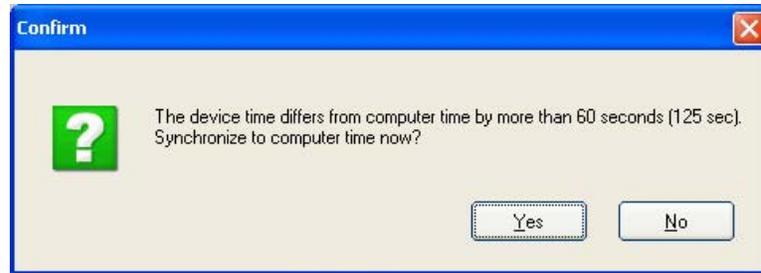

Figure 4.3—Prompt for authorizing time and date synchronization
3. If the internal time and date programmed into the instrument differs from the time and date displayed on the computer by more than 60 seconds, the software will prompt the user to synchronize the instrument time/date to match the computer time/date (Figure 4.3, page 47). This ensures that the instrument displays correct time, regardless of time zone differences.